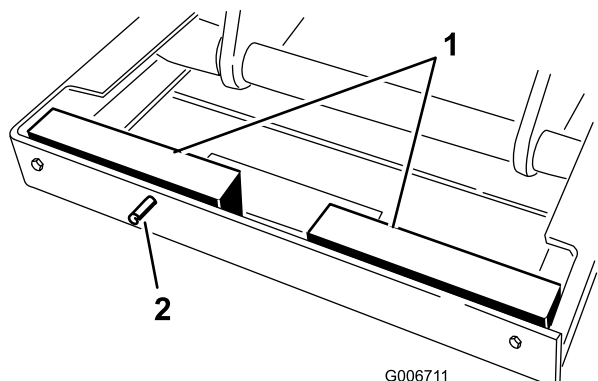

Figure 23
6. Remove retaining pins securing safety blocks to side of lift frame (Figure 23).